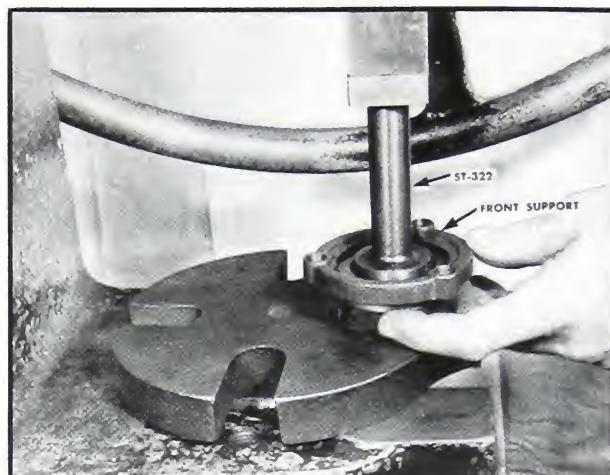

Fig. 5-314. Assembling bearing to support
6. Press the ball bearing to the flange in the front support with ST-322 mandrel. Fig. 5-314.